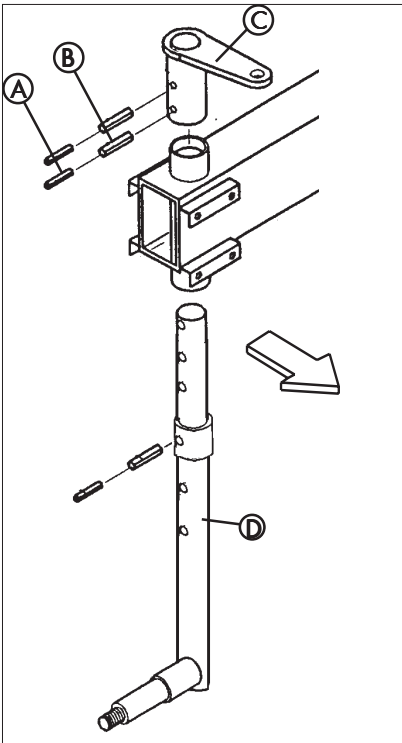

Fig. 2-1
To this end, remove dowel pins (A + B) from control lever (C). Turn axle (D) outwards (fig. 2-1).